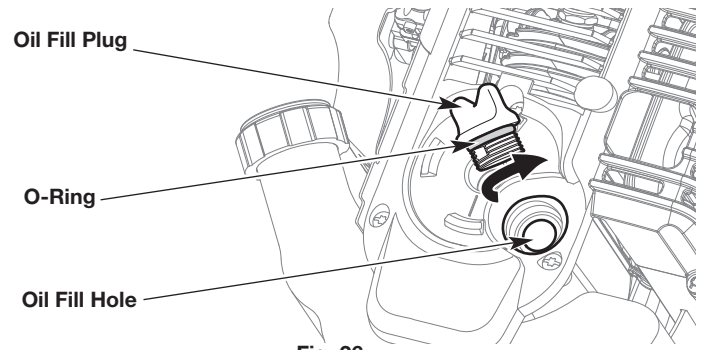

Fig. 26
3. Clean the area around the oil fill plug (Fig. 26) to prevent debris from entering the oil fill hole (Fig. 26).
7. Make sure the O-ring is in place on the oil fill plug (Fig. 26).
1. Clean the area around the oil fill plug (Fig. 26) to prevent debris from entering the oil fill hole.
5. Pour 3.04 fl.oz. (90 ml) of SAE 30 oil into the oil fill hole (Fig. 26).